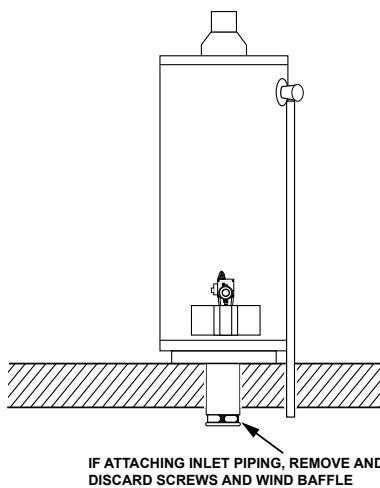

Figure 22: Wind Baffle
- Remove the screws which attach the wind baffle to the existing metal air intake vent pipe underneath the home. Discard the wind baffle and screws. See Figure 22.